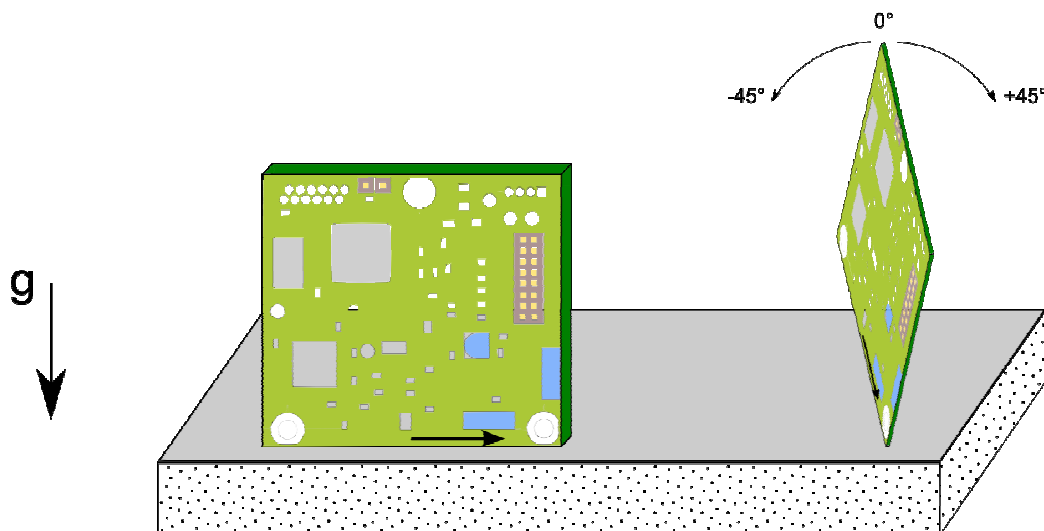

Figure 6-3: Accelerometer 18 Point Calibration Starting Positions
- Figure 6-3 shows the two basic starting positions for the accelerometer calibration. Calibration can occur within the user's system or with the module alone. It is not necessary for the module to be placed on a hard surface as shown, but the gravitational vector (relative to the module) must be as shown. Also, the module must be held still during calibration, and holding it against a hard surface is one method to help ensure this.